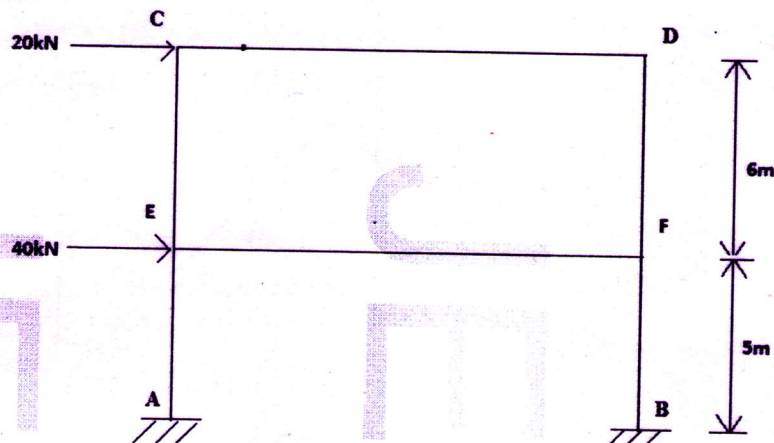

Fig.3
- 13 a) List the assumptions in cantilever method of analysis. (2)
- b) Analyse the frame shown in Fig.3 below using cantilever method and draw BMD also. (12)